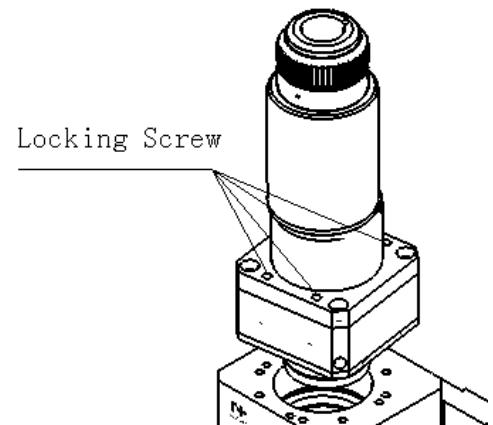

Figure 11 Collimating Module CM
- Using a 3 mm hex wrench, remove screws holding the fiber collimating assembly as shown in Figure 11. Take assembly to a clean area.